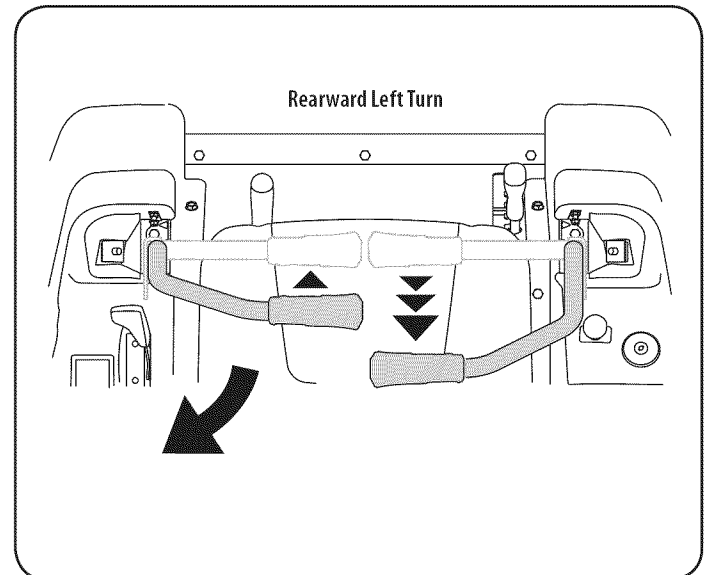

Figure 19
2. To turn to the left while traveling in reverse, move the left drive control lever forward of the right lever. See Figure 19.